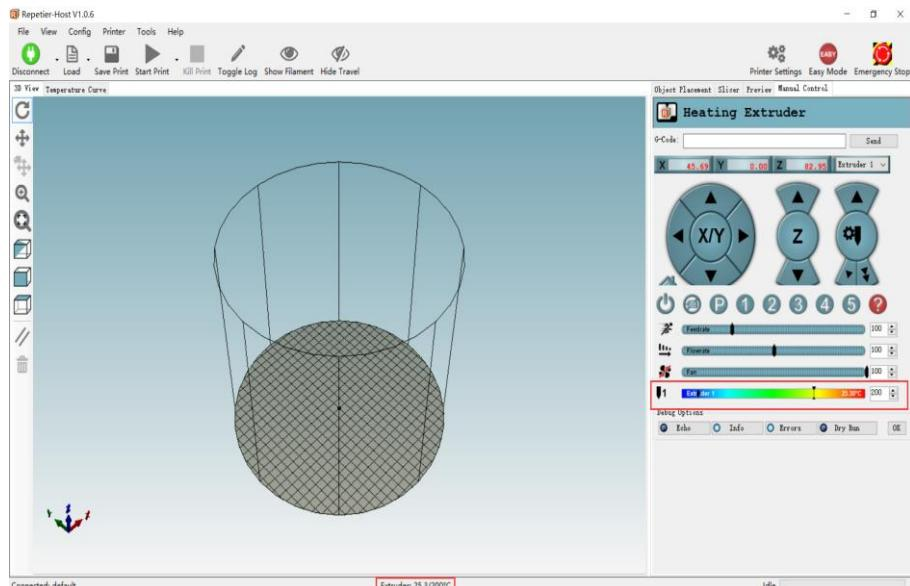

Figure 5.134 Heat the extruder
1. Set the heating temperature to 200°C on the **Manual Control** tab of the **Repetier Host** page and click  , as shown in Figure 5.134.